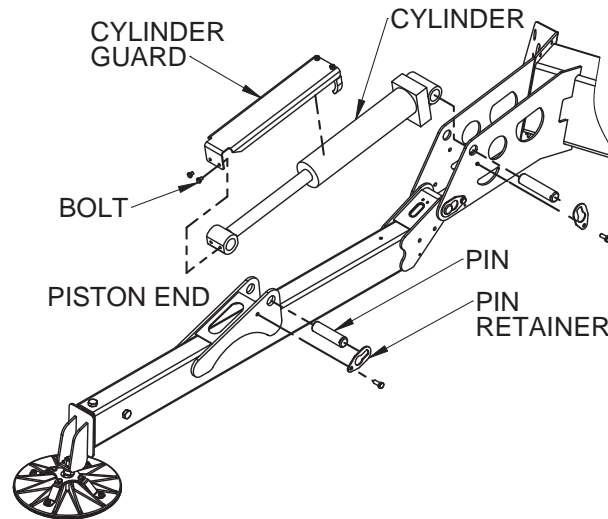

Figure 4-3. Outrigger Cylinder Replacement
- Remove the bolts securing the outrigger cylinder guard. Remove the cylinder guard. Refer to Figure 4-3.